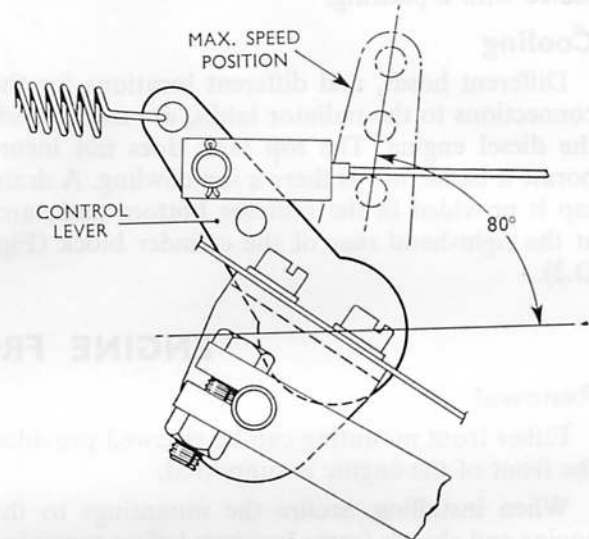

Fig. D.5. Correct location of injection pump control lever. Note that the cable is connected to the centre hole of the lever
1. Ensure the fuel injection pump control lever is correctly positioned on its spindle, i.e. pointing upwards to the rear at the specified angle (Fig. D.5) when in the maximum speed position. The lever can be adjusted in steps of  $22\frac{1}{2}^\circ$ , after slackening its securing bolt.